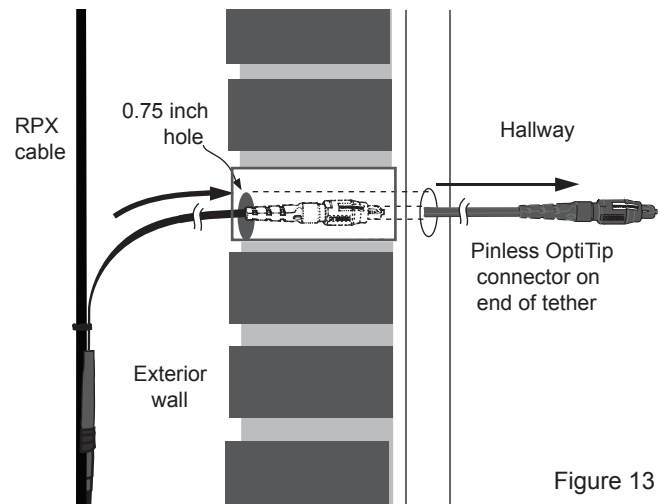

Figure 13
6.6 Feed the OptiTip connector through the hole and into the hallway (Figure 13).